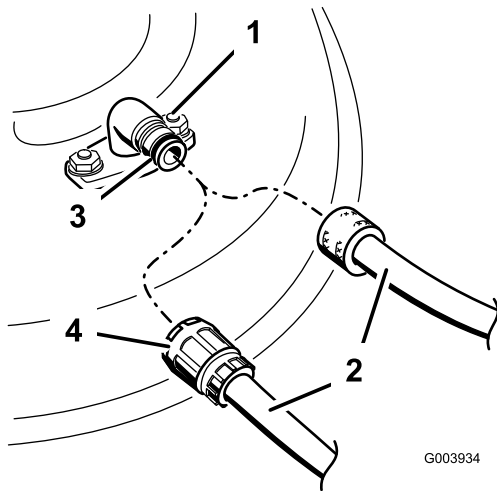

Figure 80
3. Attach the hose coupling to the end of the mower washout fitting, and turn the water on high (Figure 80).